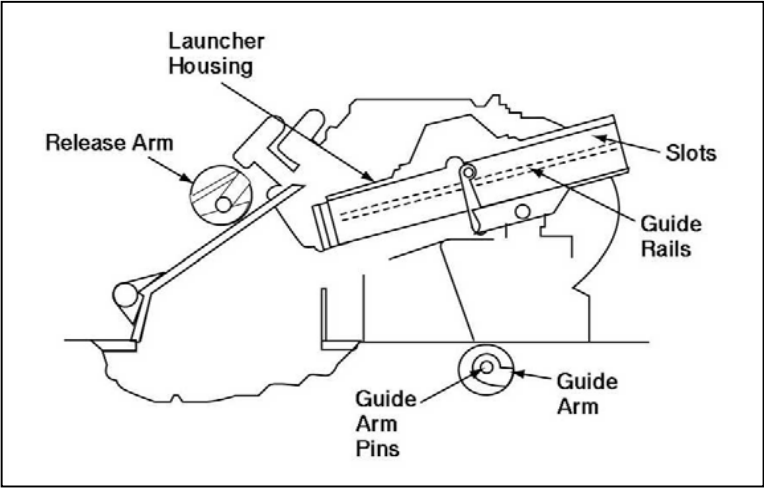

Figure 4-1-7: The Launcher
26. **Left and Right Launchers.** The left and right launchers (see Figure 4-1-7) are attached to the front shield and supported on the turret by the launcher shafts. Elevation and depression of the elevation arm is